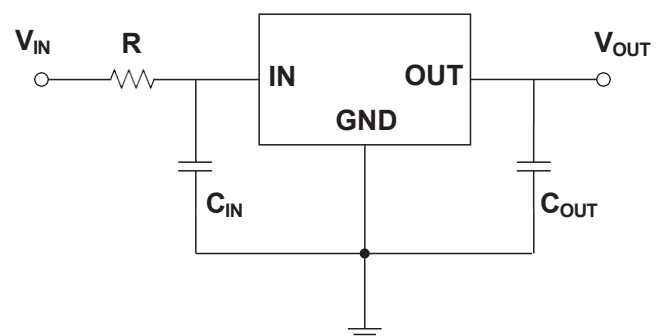

Figure 9-2. Resistance is used at IN
2. Place a resistor with appropriate resistance in series before the IN of the voltage regulator, which can help the voltage regulator share part of the energy in case of surge. The resistance value of the resistance should not be too large. The specific resistance value depends on the application of the circuit. Generally, the resistance value of this resistance does not exceed 20Ω. As shown in Figure 9-2.
For the VS78 series, it is recommended that the input voltage should not exceed 17V and the peak voltage should not exceed 35V. **When the input voltage is greater than 17V, or the peak voltage that may be greater than 35V may appear in the practical circuit, it is recommended to adopt the circuit layout shown in Figure 9-2 in the circuit design.**
The VS78 series can obtain better transient response with the help of output capacitance. However, if the output capacitor is relatively large, the surge current generated by the charging of the output capacitor will also be large at the moment of power on of the regulator, and the large surge current passing through the regulator may damage the internal circuit. When the output capacitance is large, adopting the circuit design shown in Figure 9-2 will reduce the possibility of damage to the device due to large surge current to a certain extent. It is recommended that the selection of output capacitor should not exceed 20 μ F. **If the selection of output capacitor exceeds 20 μ F, it is recommended to adopt the circuit design in Figure 9-2 to reduce the possibility of accidental failure of the device due to large surge current during power on.**
It is recommended that the output capacitor (C_{OUT}) should not exceed 20 μ F. When the output capacitor (C_{OUT}) exceeds 20 μ F, it is recommended to use the circuit layout shown in Figure 9-2. See *Large Output Capacitance* for more details.